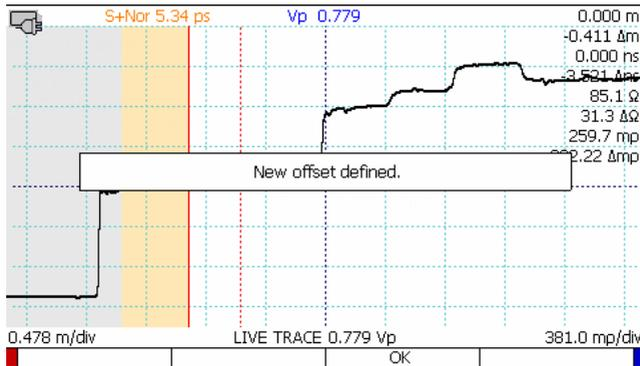

Figure 4.15. After choosing Set New Position, the cursor position is now at 0.000 m.
4. Press *Set New Position*. The CT100B will “move” the zero position to where the cursor is located on-screen. The background between the real zero point and the offset will be highlighted in orange. See Figure 4.15.